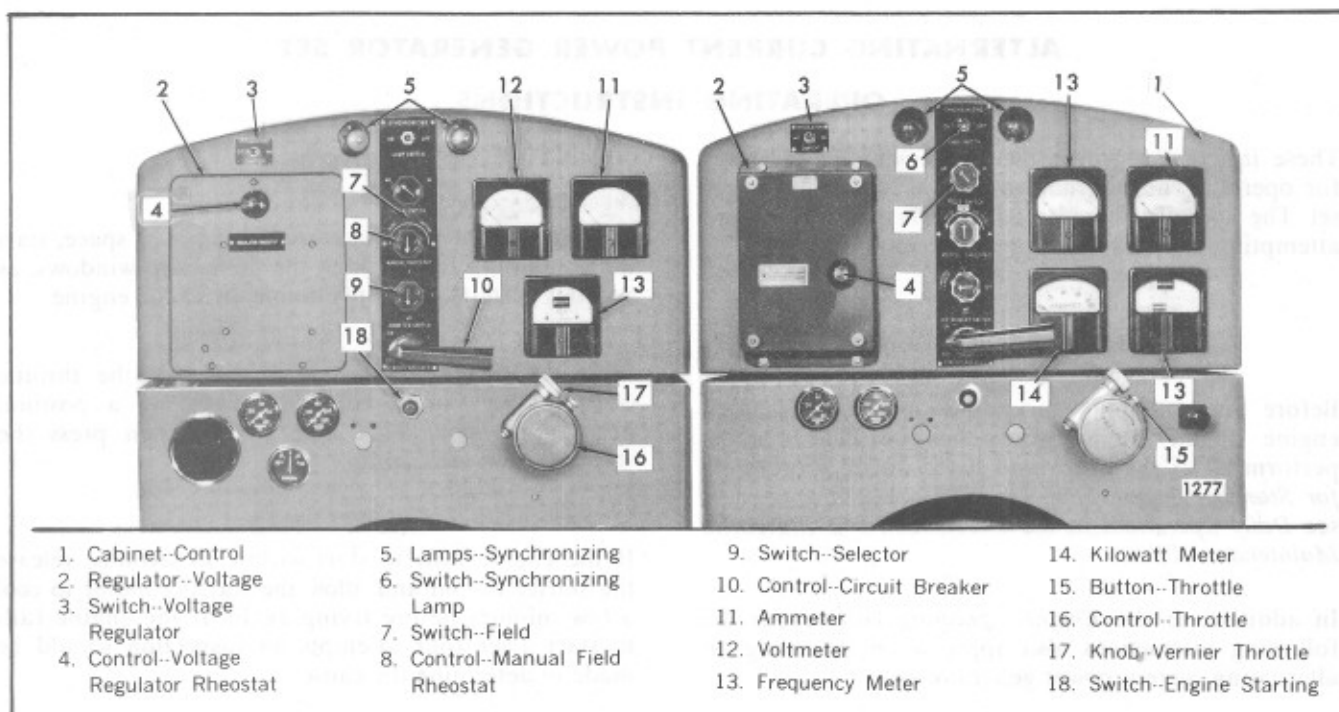

Fig. 1 - Typical Alternating Current Generator Control Cabinets
4. Refer to Fig. 1 and place the circuit breaker (10) in the *OFF* position.
5. Place the field switch (7) in the *OFF* position.
6. Place the synchronizing lamp switch (6) in the *OFF* position.
7. Place the voltage regulator switch (3) in the *OFF* or *MANUAL* position.
8. Turn the field rheostat knob (8) clockwise to its lower limits.
Press the throttle button (15) and turn the throttle control (16), Fig. 1, counterclockwise to a position midway between *RUN* and *STOP*. Then press the starter button (18) firmly.
1. Bring the engine up to rated speed. Then place the field switch (7), Fig. 1, in the *ON* position.
2. Turn the voltage regulator switch (3) *ON*.
3. Turn the instrument selector switch (9) to the desired position.
4. Turn the field rheostat (8) slowly in a counterclockwise direction to raise the voltage, while watching the voltmeter, until the rheostat reaches the end of its travel. The voltage regulator will take control of the generator voltage as the field rheostat reaches the end of its travel.
2. Check the voltmeter (12), Fig. 1; the voltage must be the same as the line voltage. Adjust the voltage
1. Turn off all of the load on the generator when stopping a single engine unit. Shift the load from the generator when taking a set out of parallel operation by turning the vernier throttle knob (17), Fig. 1, until the ammeter (11) reads approximately zero.
2. Place the circuit breaker control (10) in the *OFF* position.
3. Turn the field rheostat (8) to the fully clockwise position.
4. Turn the voltage regulator switch (3) to the *OFF* position.
6. Press the throttle button (15) and turn the throttle control (17) to *STOP* to shut down the engine.